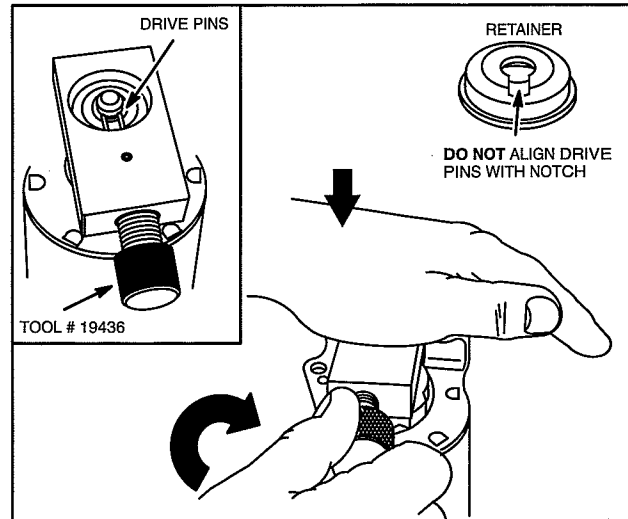

Fig. 11 – Removing C-Ring
1. Place counterbore side of Tool #19436 over retainer and align drive pins with open end of C-Ring, Fig. 11.